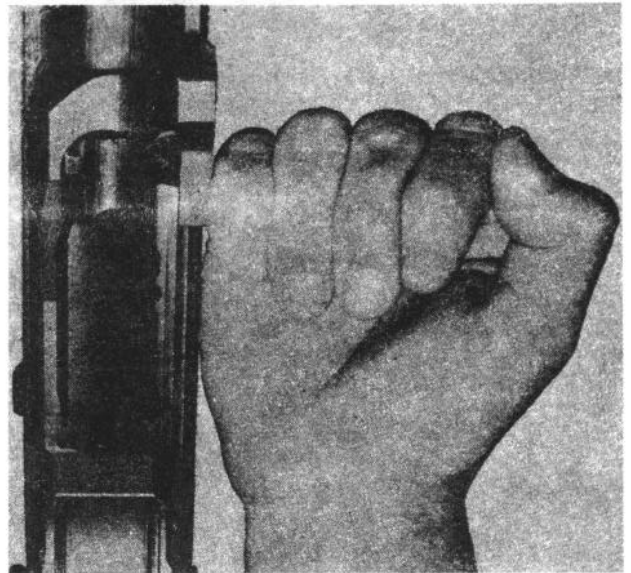

Figure 32. Applying immediate action.
a. Immediate action is the prompt action taken by the firer to reduce a stoppage. To apply immediate action, pull the operating rod handle all the way to the rear with the right hand, *palm up*, then release it. The right hand should be held in the manner shown in figure 32 so it will not be injured in the event of a hangfire. Next, aim the rifle and try to fire it.